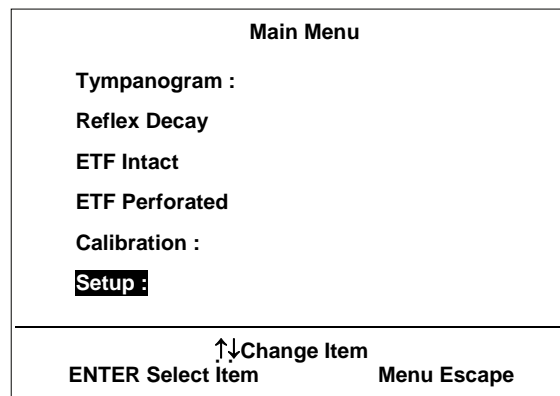

Figure 33
You can change the menu options with the cursor keys: Up ⑫, Left ⑨, Down ⑩ and Right ⑪. The menu option actually selected is marked inverse on the LCD display ⑤ (SETUP in the example Figure 33). You select the chosen menu option by pressing Enter ⑬.